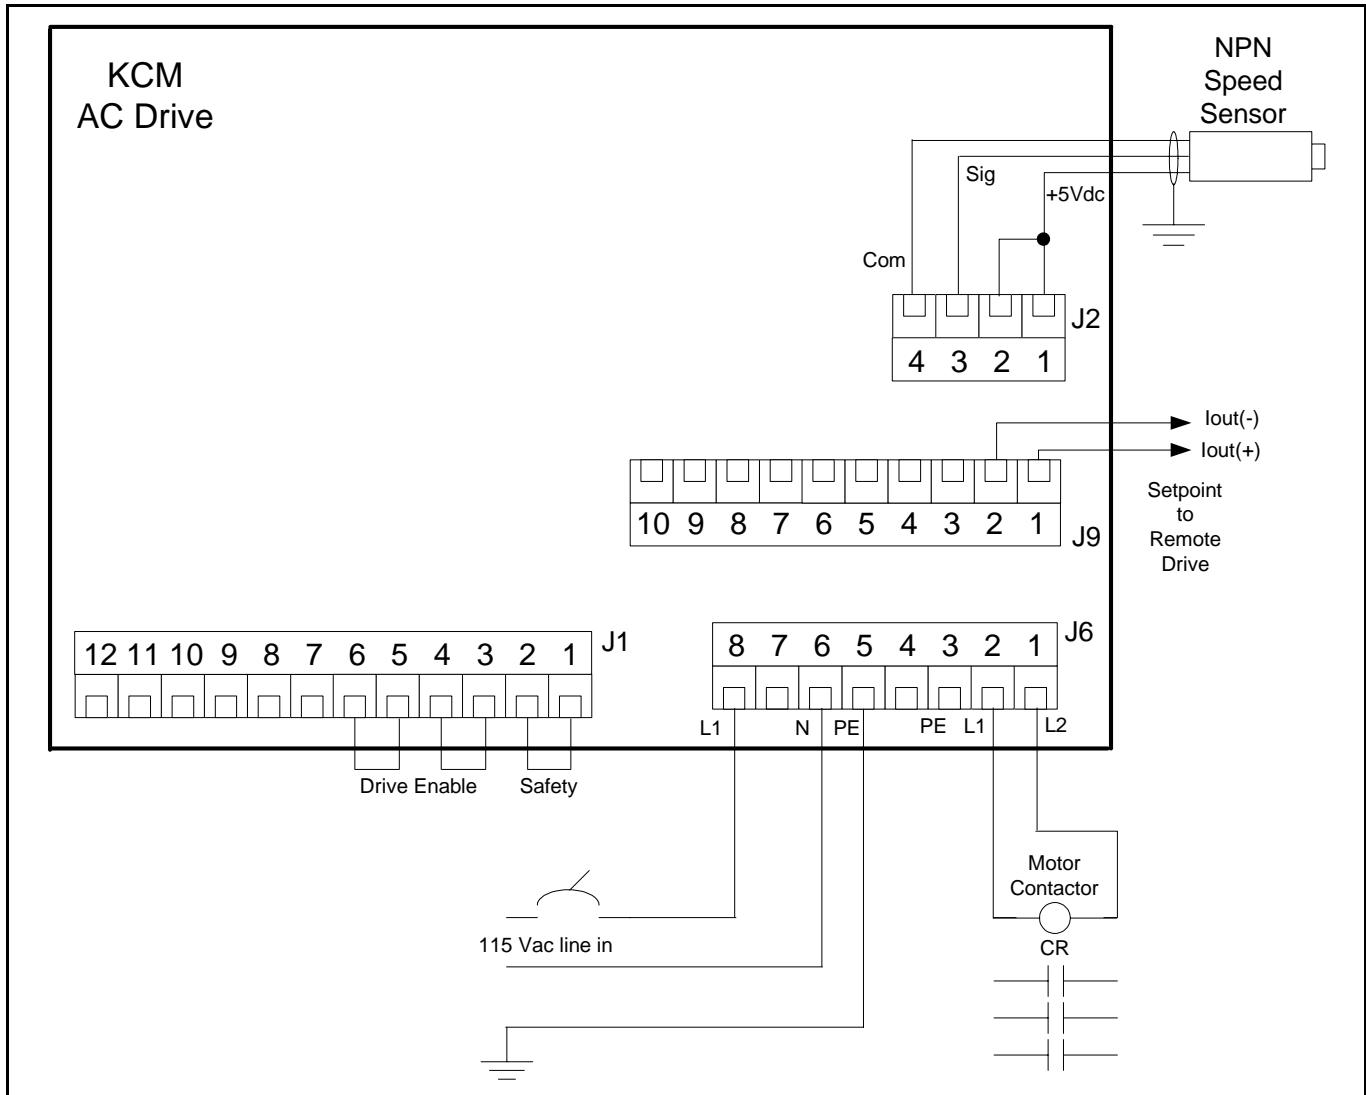

Fig. 12.12 KCM AC interface wiring example
- Not all terminal blocks are shown in this example. (Fig.12.12)